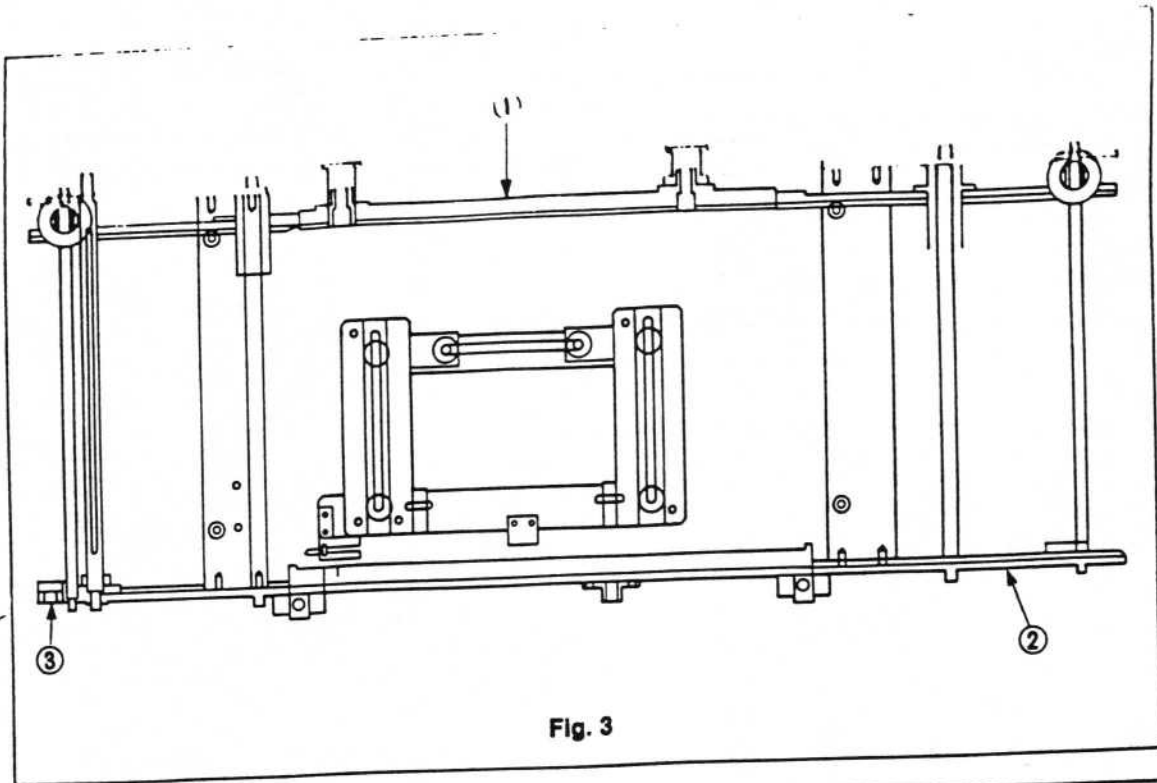

Fig. 3
- For belt replacement, remove the arm ① (see Figs. 1 and 2). The arm can be detached by removing the nut (8 mm) on the rear side of the arm shaft ②. Having removed the arm, the arm on the adjustable board conveyer ① (Figs. 3 and 4) side can be replaced. (When removing the arm, remove also the spring (③ in Fig. 2). Next remove the sensor bracket ③ on the fixed board conveyer ② side (see Figs. 3 and 4). By removing the arm in the same way as for side ①, the belt can be replaced.
- As in the above (belt replacement), first remove the arm, then remove the retaining nut of the pulley ⑤ (of pulleys ③ - ⑦ in Fig. 1) and replace the pulley. Other pulleys can be replaced by removing the nuts on the rear side of each. Pulley replacement is usually accompanied by replacement of the pulley shaft. Also replace the board conveyers (① and ② in Figs. 3 and 4). For the board conveyer ②, first remove the sensor bracket ③.